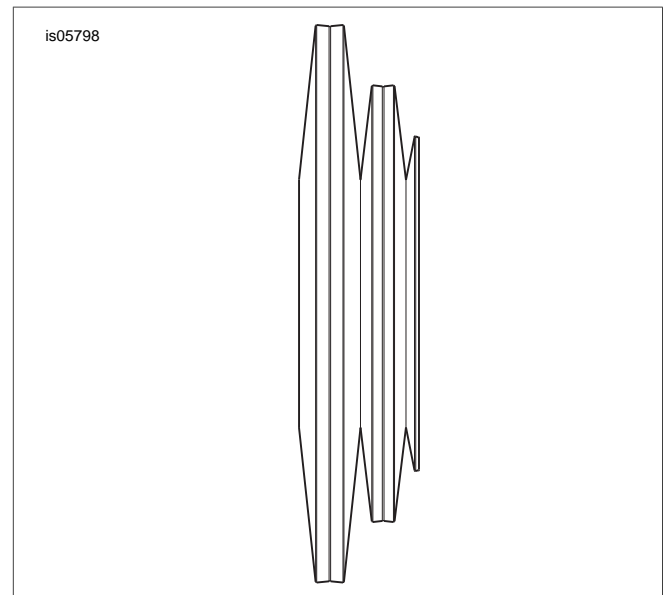

Figure 1. Spring Pack Sub-Assembly
2. Install the two large disc springs (6) with the outer diameters contacting each other, as shown in Figure 1. Install the two medium disc springs (7) with the outer diameters contacting each other. Install the small disc spring (8) with the outer diameter facing outward.
3. Install the sliding cam (3) with the flat face contacting the small disc spring. Lubricate the sliding cam ramps (B) with primary chaincase oil.